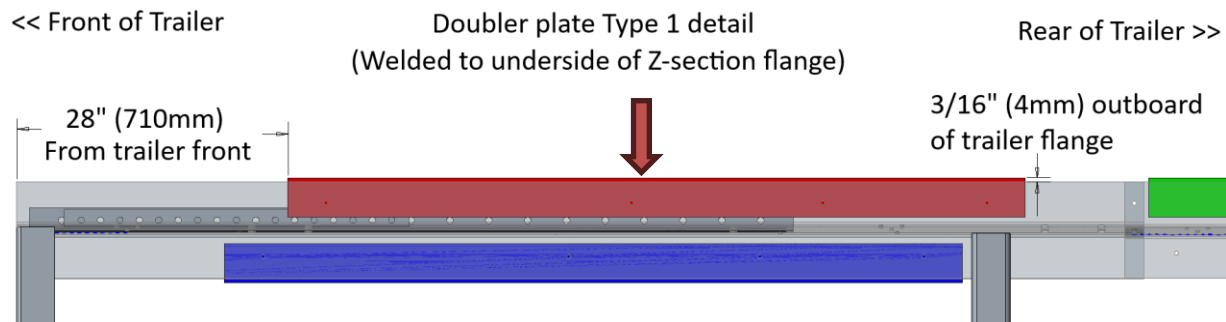

Figure 2: Location of Type 1 Doubler plate
2. Figure 2 shows the location of the Doubler plate for the curb side of the chassis only, located underneath the top flange of the Z-section.